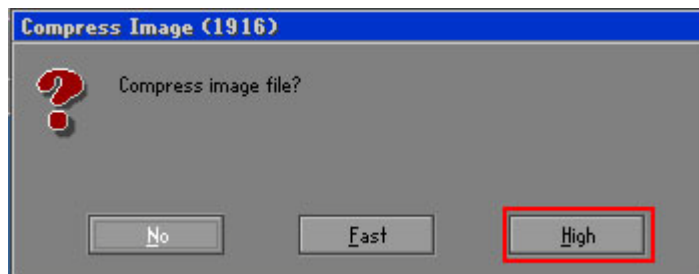

Figure B-17: Compress Image
Step 8: When the Compress Image screen in Figure B-17 prompts, click **High** to make the image file smaller.